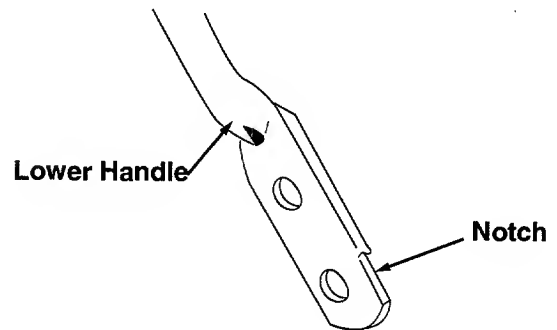

Figure 10.
4. Turn the lower handle around so the notch on the bottom of the lower handle is facing forward as shown in figure 10. Reassemble, placing the bottom holes in the handle over the weld pins in the handle mounting bracket.